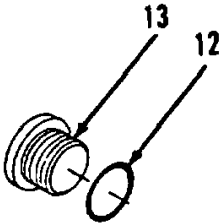

Figure 10-103.
- 8. Remove preformed packing (12) from plug (13, Figure 10-103). Discard preformed packing (12).
- 2. Install new preformed packing (12) on plug (13, Figure 10-103).